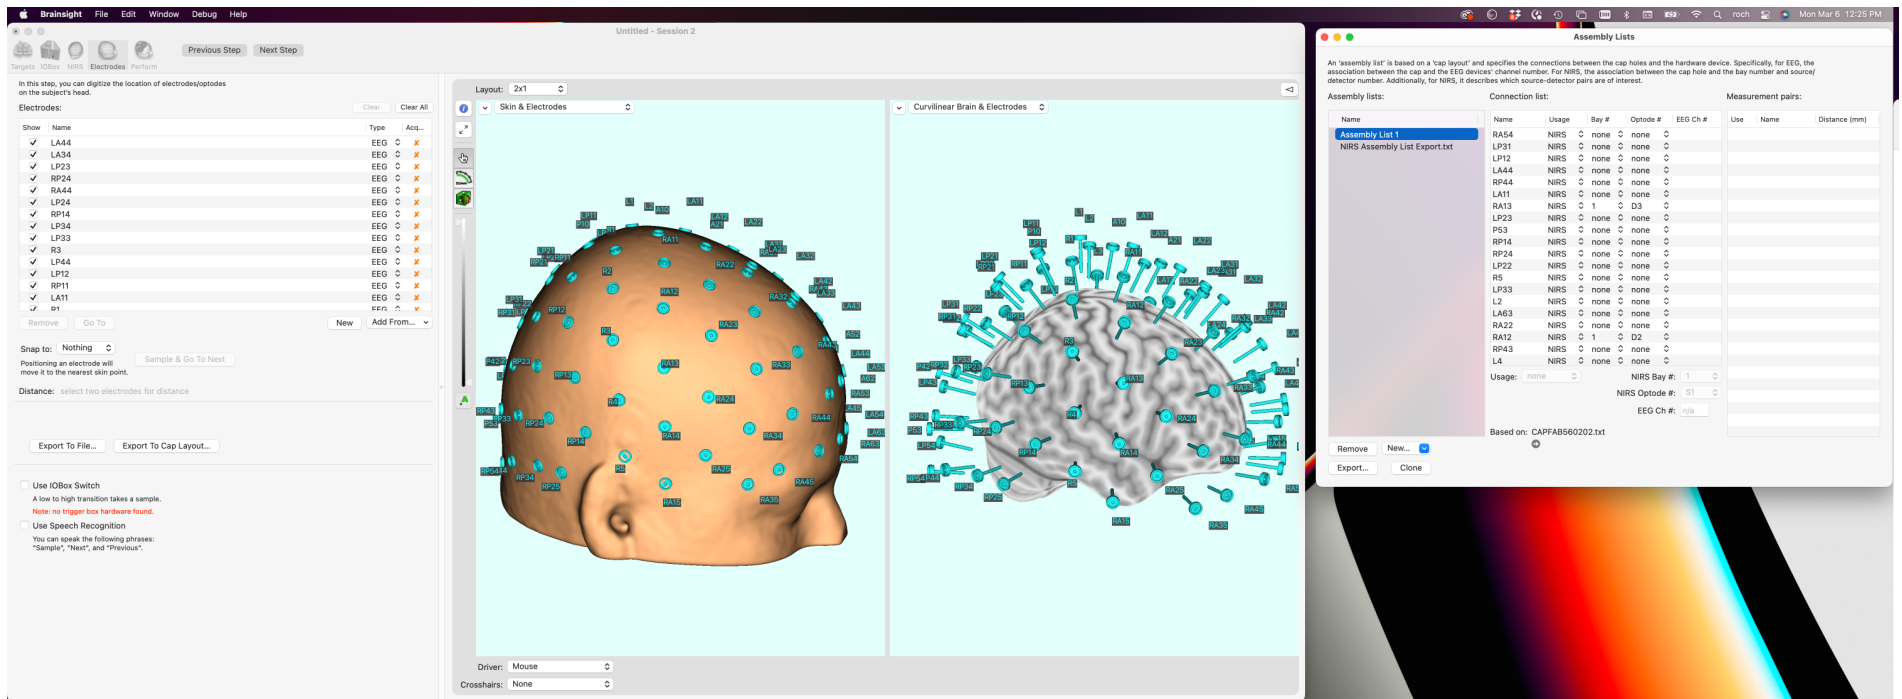
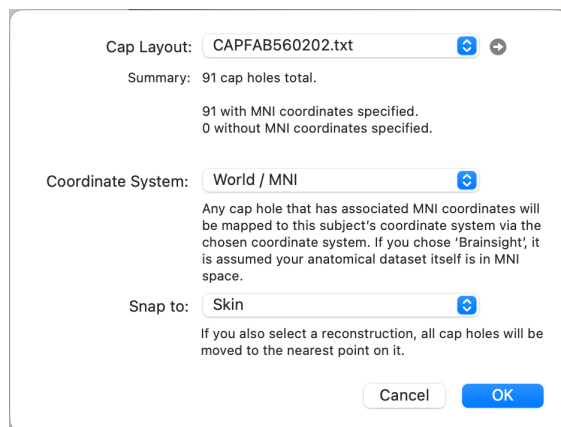

Fig. 4-4
Fig. 4-5
- Arrange the screen layout to something similar to Fig. 4-4. Specifically, select the 2x1 layout and display the scalp in one view, and the curvilinear brain in the other. You are free to change the layout however this layout is likely the most useful.
(see Fig. 4-5). You should see the optode receptacles appear on the scalp of the skin and float over the curvilinear brain as shown in Fig. 4-4.